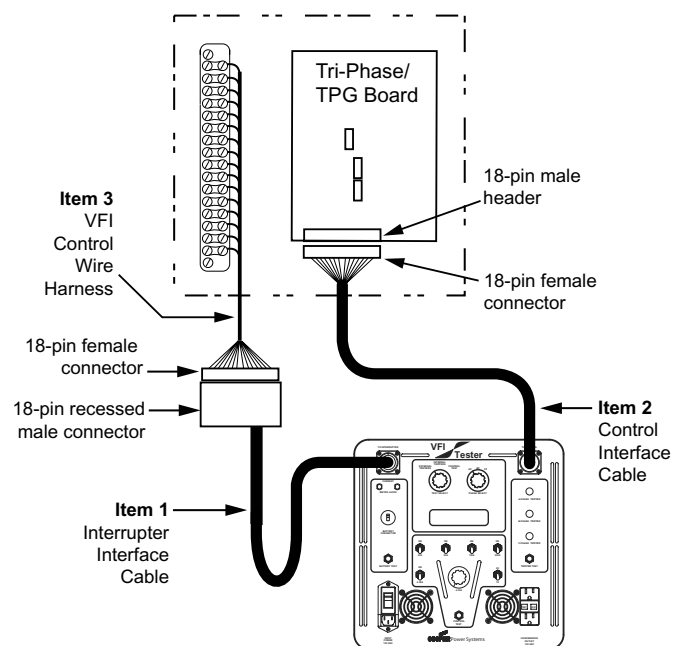

Figure 5.
3. Connect the 14-pin female/18-pin male interrupter interface cable (Item 1) to the VFI Tester at the interrupter port. Refer to Figure 5 for steps 3 through 8.
3. Disconnect the 18-pin female connector end of the tester control interface cable (Item 2) from the 18-pin male header of the Tri-Phase/TPG board. Refer to Figure 5 for steps 3 through 7.